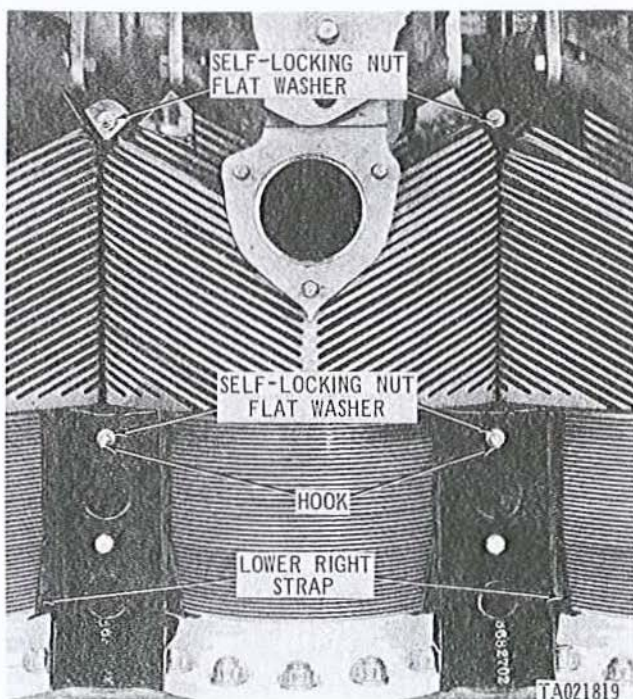

Figure 3-60. Removing or installing intercyylinder head deflectors and disconnecting intercyylinder deflector hooks - right side.
c. Remove five self-locking nuts and washers (fig. 3-60) from hooks and remove five intercylinder cylinder head deflectors and hooks. Remove five self-